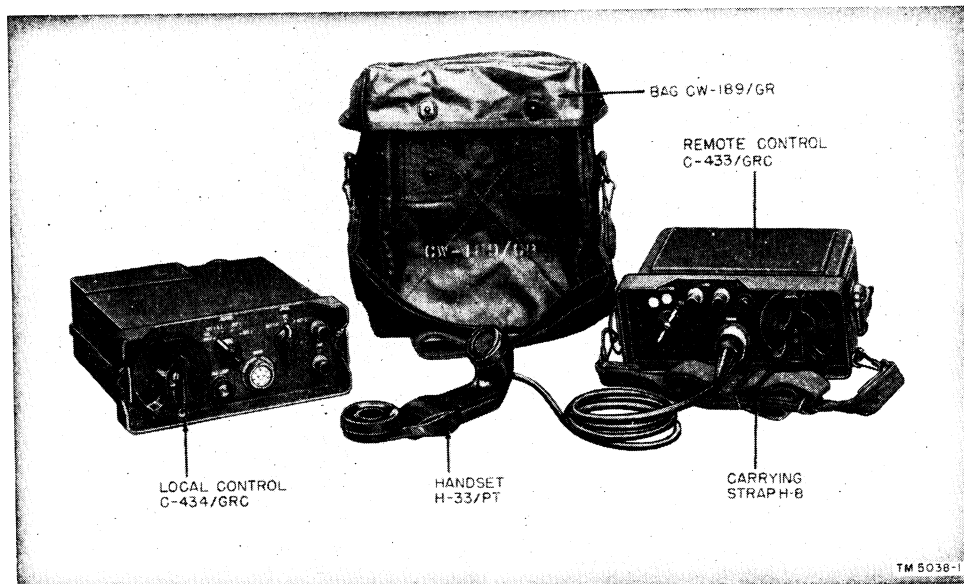

Figure 25. Control Group AN/GRA-6.
- (1) In this position of the **POWER** switch, all four voltage supplies are connected to jack **J8-J** (**AUDIO** jack) instead of to ground. Power can now be applied to the set only when jack **J8-J** is connected to ground. This connection is made in Control Group **AN/GRA-6**. Control Group **AN/GRA-6** consists of Local Control **C-434/GRC** and Remote Control **C-433/GRC**.
- (2) The **SET 1** cable of Local Control **C-434/GRC** is plugged into the **AUDIO** jack, **J8**, of the receiver-transmitter. Remote Control **C-433/GRC** is connected to the local control by a two-wire telephone line whose maximum length is two miles (figs. 25 through 30). On the local control, the **LOCAL** switch is set at **TEL** and the **REMOTE** switch is set at **SET 1**. On the remote control, the **SELECTOR** switch is set at the left write-in position and the push-to-talk button on the handset is pressed and then released. With the above settings on the local control, jack **J8-J** in the radio set is grounded through a relay circuit in the local control and power is applied to the receiver circuits of the radio set.
- (3) When the push-to-talk button on the handset, which is plugged into the remote control, is pressed, relays are actuated in the local control which complete the circuits from jack **J8-F** to jack **J8-H**, and from jack **J8-C** to jack **J8-E** in the radio set. These circuits, respectively, energize the receive-transmit relay **K1** and complete the microphone input circuit. The set is then in the transmit condition. Releasing the push-to-talk button returns the set to the receive condition. Turning the **SELECTOR** switch on the remote control away from the left write-in position, breaks the connection from jack **J8-J** to ground and turns off all power in the set.
a. Control Group AN/GRA-6 (figs. 25 and 26) may be used to control a radio set from a position as far as 2 miles away. It also provides for telephone communication (including ringing) between the local and remote control stations. Control Group AN/GRA-6 consists of Local Control C-434/GRC, Remote Control C-433/GRC, Handset H-33B/PT, and Bag CW-189/GR. The local and remote control units are connected by a pair of telephone wires (such as Wire WD-1/TT) which is supplied separately.